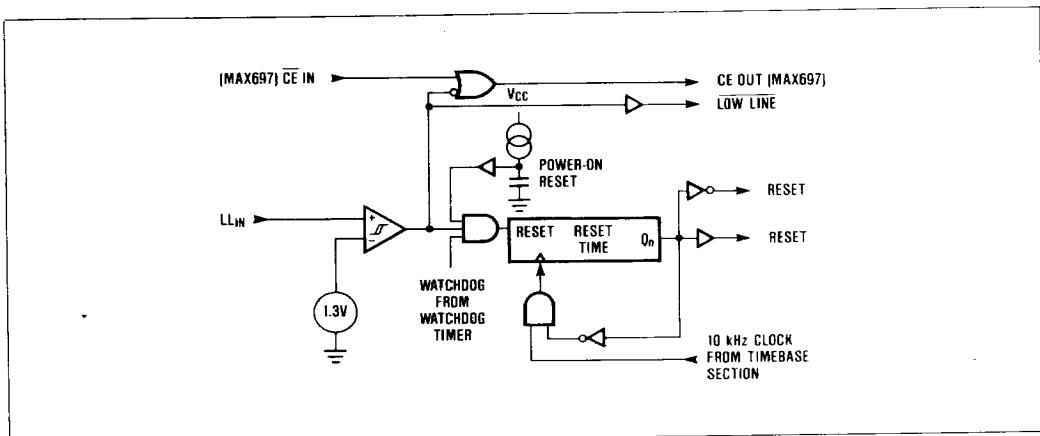

Figure 4. Reset Block Diagram
**RESET** is an active low output which goes low whenever  $LL_{IN}$  falls below 1.3 volts. It will remain low until  $LL_{IN}$  rises above 1.312 volts for 50 milliseconds. (See Figures 4 and 5.)
The MAX697 uses two pins to control the Chip Enable or Write inputs of CMOS RAMs. When  $LL_{IN}$  is > 1.3V,  $CE\ OUT$  is a buffered replica of  $CE\ IN$ , with a 50ns propagation delay. If  $LL_{IN}$  input falls below 1.3V (1.2 min., 1.4 max.) an internal gate forces  $CE\ OUT$  high, independent of  $CE\ IN$ . The  $CE$  output is also forced high when  $V_{CC}$  is less than  $V_{RATT}$ . (See Figure 4.)